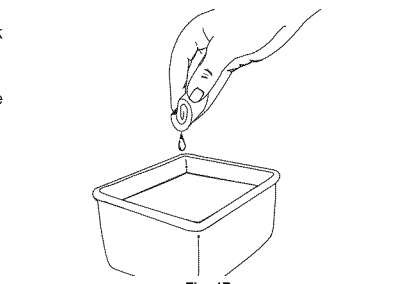

Fig. 17
- Wash the filter in detergent and water (Fig. 17). Rinse the filter thoroughly and allow it to dry.